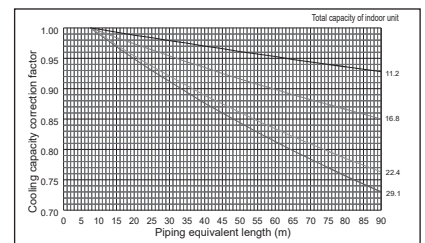

Figure 3 Correction of refrigerant piping length
- Piping Length Correction (40 m)      0.91 (Refer to Figure 3)